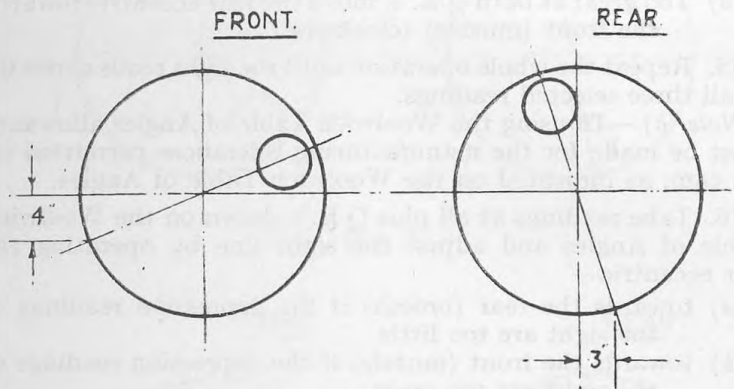

Fig. 5.
85. Set the sight carrier adjusting bushes in the positions indicated in **FIG. 5**.